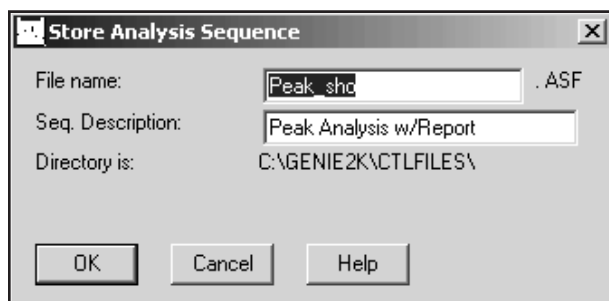

Figure 38 Storing the Modified Sequence
1. Click the Edit Analysis Sequence screen's **Store** button. You'll see the Store Analysis Sequence dialog box in Figure 38.